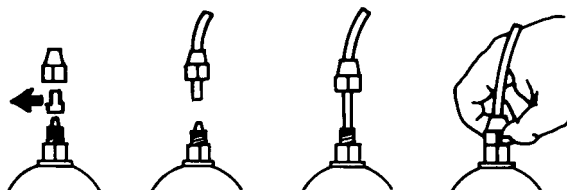

Fig. 7
e.- Remove the protection caps from the two nipples, slide the hoses over the connectors, pushing them into the maximum, and then fix them with appropriate tube nuts. (Fig. 7).